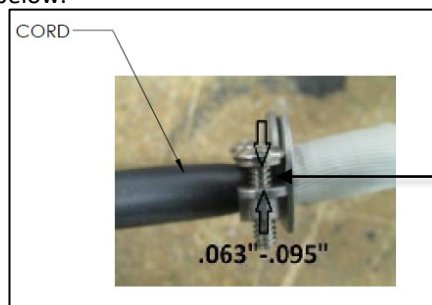

FIG. 32 – STRAIN RELIEF WITH CORD INSERTED
8. Insert CORD through the STRAIN RELIEF and tighten two screws on the STRAIN RELIEF above MOUNTING BRACKET where marked. If screws are not properly tightened CORD could slip through the STRAIN RELIEF. Tighten screws until there is a gap of .063" - .095" between the STRAIN RELIEF body and compression plate as shown in FIG. 32 below.